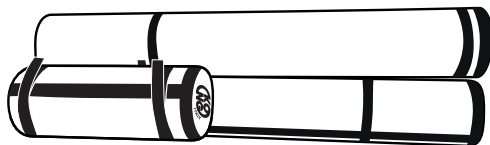

Fig.3
- b) Flok-it, flotation device (fig. 3 and 4),